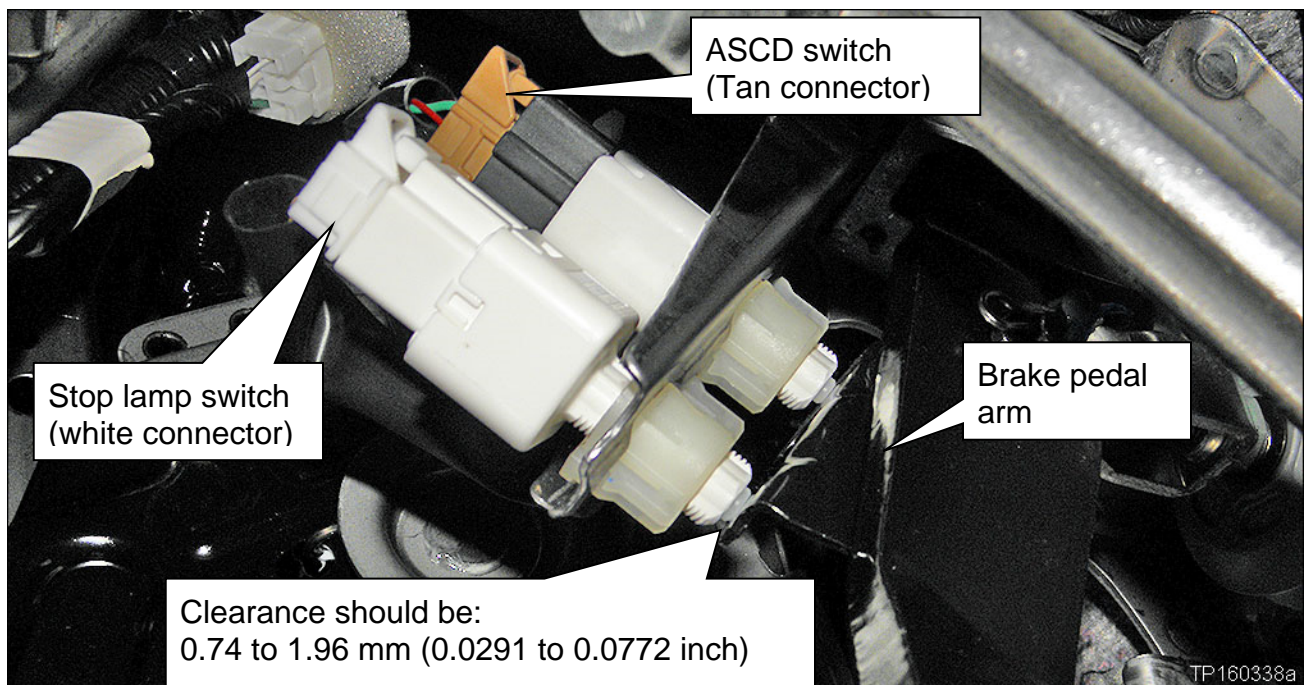
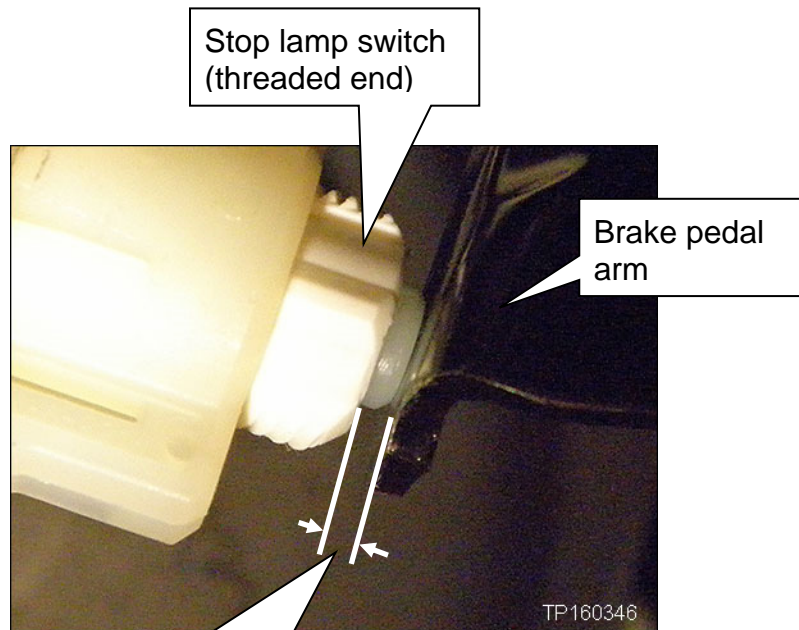

Figure 1
Figure 2
2. Locate the stop lamp switch (see Figure 1).
3. Check the adjustment of the stop lamp switch (see Figure 1 below and Figure 2 on the next page):